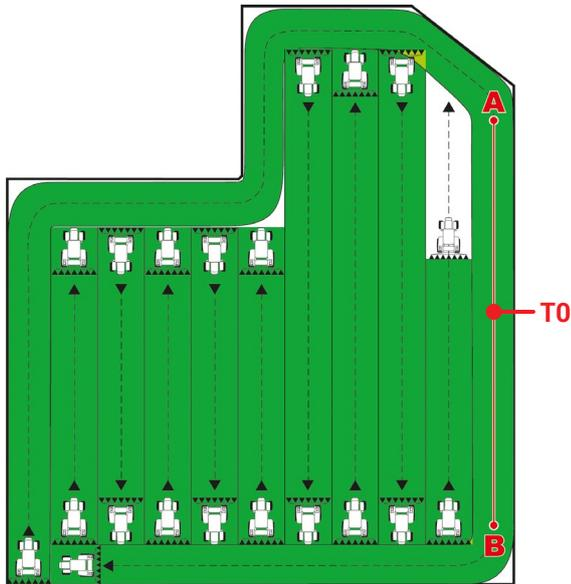

Fig. 259
- Once the line from A to B has been marked (T0), it will be possible to spray the rest of the field along parallel lines, (Fig. 259), by following the reference tracks shown on the display (Fig. 260).